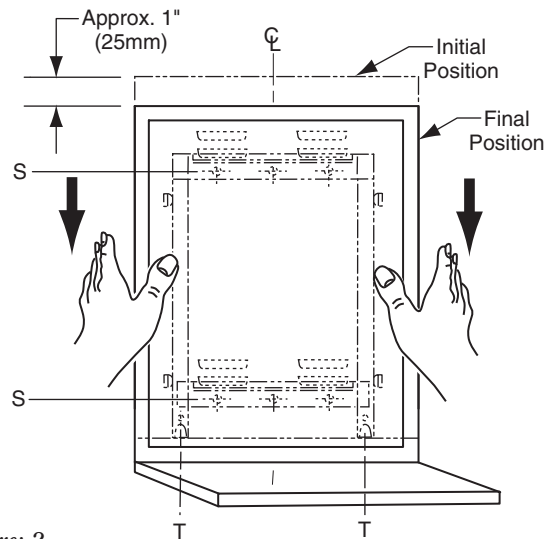

Figure: 2
**Frame** — 18-8 S, type 304, heavy-gauge stainless steel, 3/4" x 3/4" (19 x 19mm) angle with vertical-grain satin finish. One-piece, roll-formed construction forms continuous integral stiffener on all sides. Bevel design on front of angle holds frame tightly against mirror. Corners of mirror frame are heliarc welded, ground, and polished smooth. Galvanized steel back is fastened to frame with concealed screws and equipped with integral horizontal hanging brackets near the top for hanging the mirror and near the bottom to prevent the mirror from pulling away from the wall. Locking devices secure mirror to concealed wall hanger. In Screw Locking Design (see figure 2), concealed Phillips-head locking screws securely fasten mirror to wall hanger.
**Screw locking Design** — Lock mirror to wall hanger by tightening Phillips-head locking screws that are concealed in the bottom of frame at points indicated by a T (see figure 2). Mirror may be unlocked from wall hanger by loosening locking screws and lifting mirror off of concealed wall hanger.